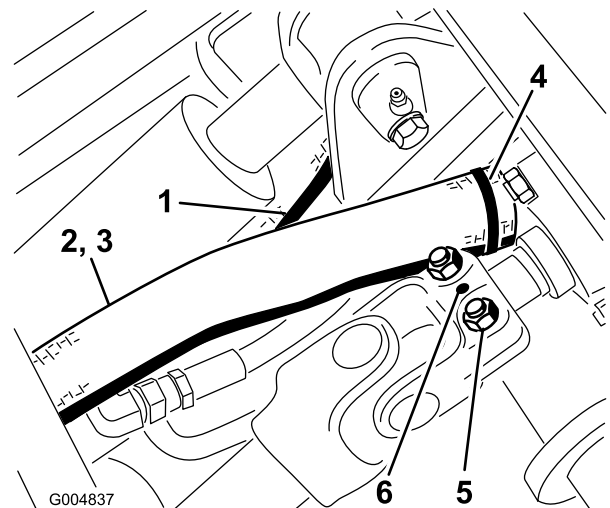

Figure 37
6. Connect the drive shaft to the gear box shaft in the winter frame and torque the bolts (5/16 inch) to 175-225 in-lb (20 to 25 N·m). Install the roll pin (Figure 37).